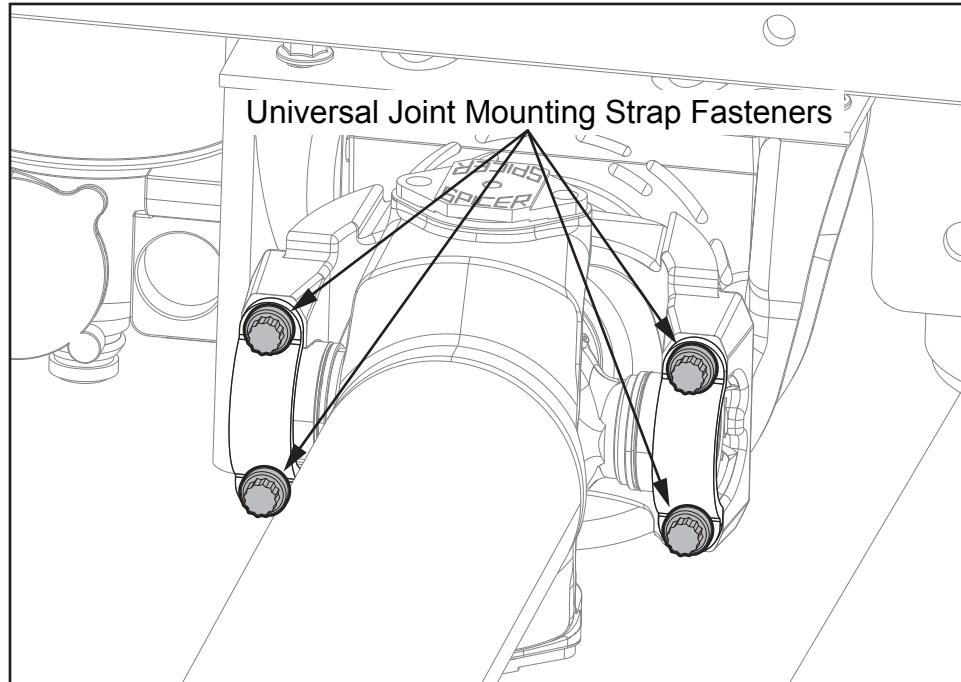

Figure 5, ACX / DC vehicles universal joint fasteners
7. For all affected ACX and DC vehicles, locate the 4 universal joint mounting strap fasteners and tighten to 125 Lbs-ft of torque (see *Figure 5*).